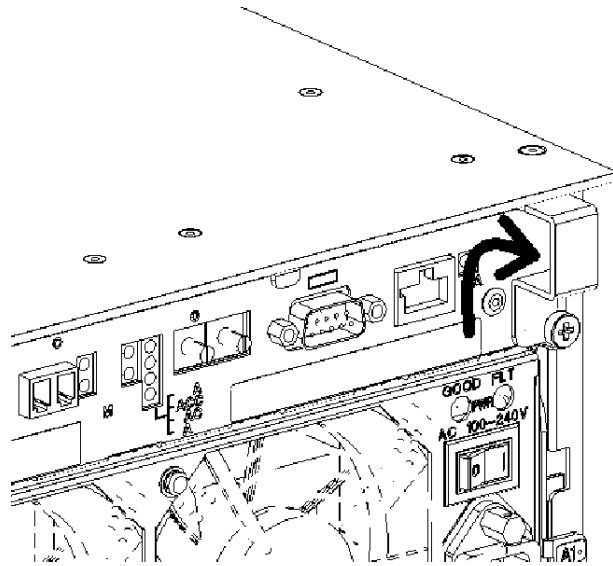

Figure 3-5. Grasping the Controller Module Ejection Lever.
- Put your finger within the protrusion (shown in the figure) of the ejector, and pull it the ejector toward you to release the controller module. See Figure 3-5